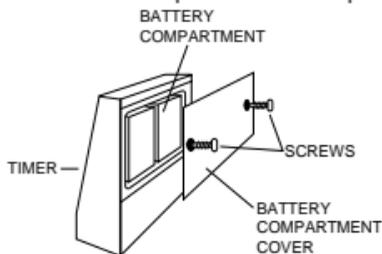

Figure 1
- Remove the two screws on the battery compartment cover using a Phillips screwdriver. [See Figure 1] Install two fully-charged alkaline batteries. Put back plate on and replace screws.